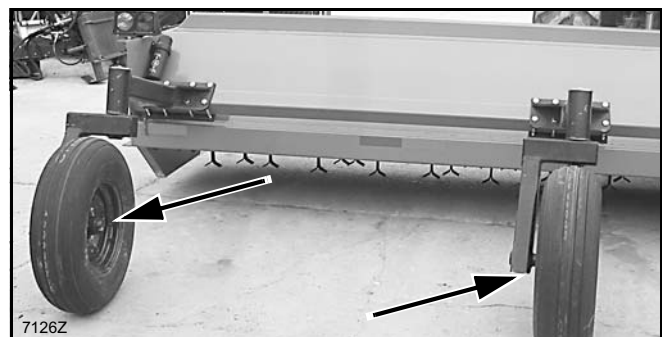

Figure 28. Wheel Bearings
2. Repack wheel bearings. See Figure 28.